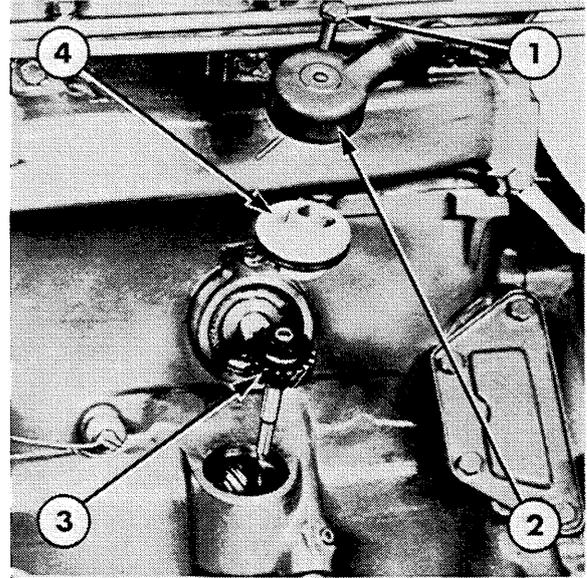

Figure 28
4. Slacken the retaining bolt then withdraw the driveshaft adapter assembly and the oil pump drive gear, Figure 28.